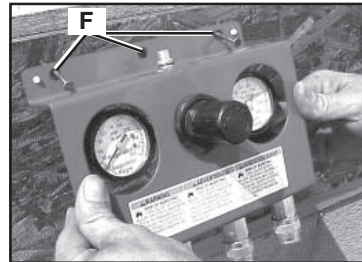

Fig. 6
- The "quadraport" can be temporarily or permanently mounted at the work site using the three mounting holes (F). See Figure 6.